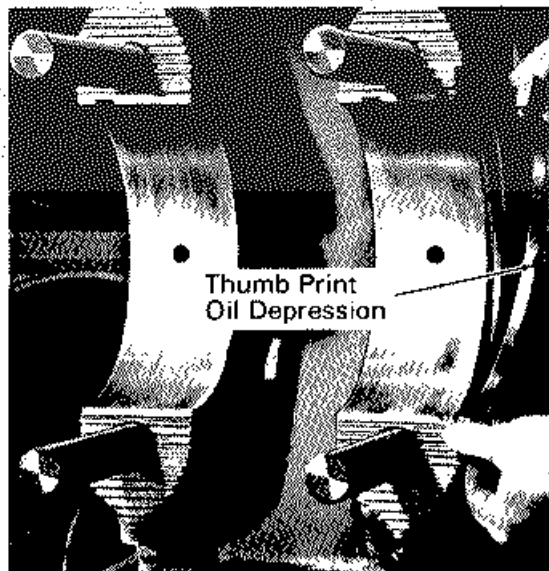

Fig. 6-3 - Applying Thrust Collar (16 & 20-Cyl.)
3. Place the thrust collars in their respective "A" frame counterbores, as shown in Fig. 6-3.